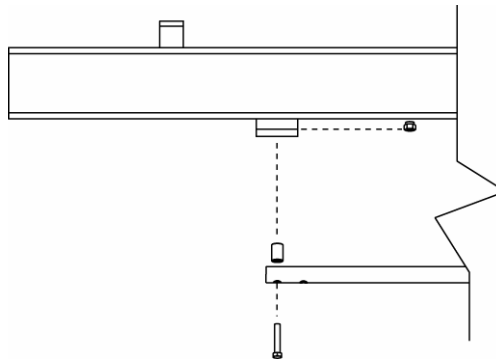

Figure 9
- B. Slide the end of the padded switchbar without a hole in it through the slot in the overhead switch assembly. Connect the padded switchbar to the overhead beam using a #10-18 X 1-3/4 self-tapping screw and spacer, figure 9.